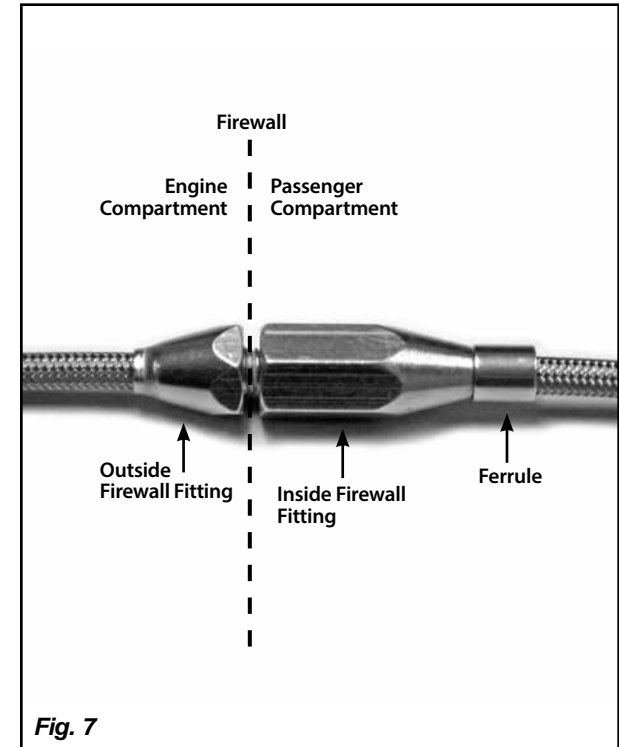
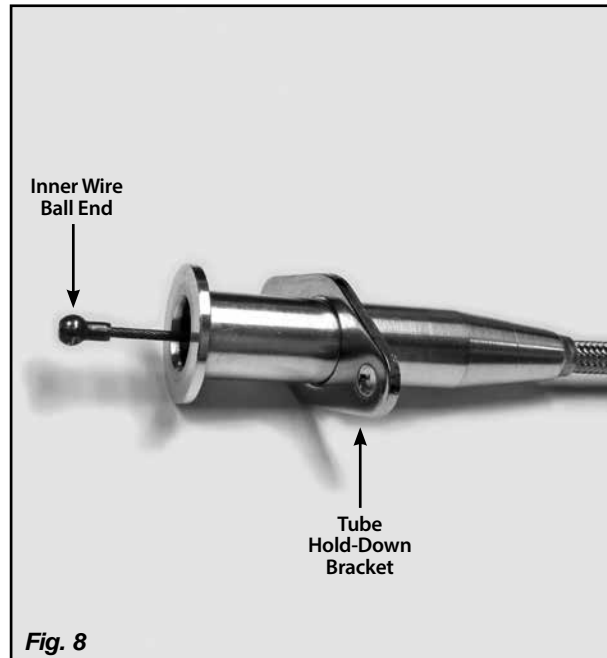
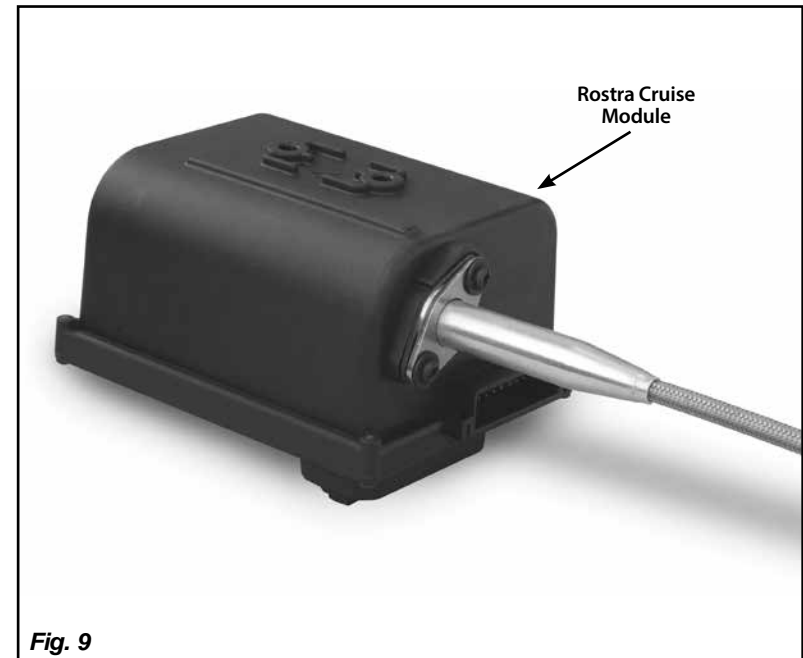

Fig. 7
Fig. 8
Fig. 9
Step 10: This step will require two people in most cases. Insert the outside firewall fitting into the firewall hole from the engine compartment. From inside the passenger compartment, thread the inside firewall fitting onto the outside firewall fitting and tighten. Make sure the ferrule is in place on the firewall end of the passenger compartment cable housing, and the tube hold down bracket (**Fig. 8**) is on the opposite end of the cable housing. Insert the end of the cable housing with the ferrule into the inner firewall fitting. **Fig. 3 & Fig. 7**
Step 11: Feed the inner wire into the cruise control cable housing from the end that connects to the cruise module. Slide the inner wire ball end into the retainer slot on the cruise module, **Fig. 8**. Assemble the cruise control cable housing to the cruise module. **Fig. 9**